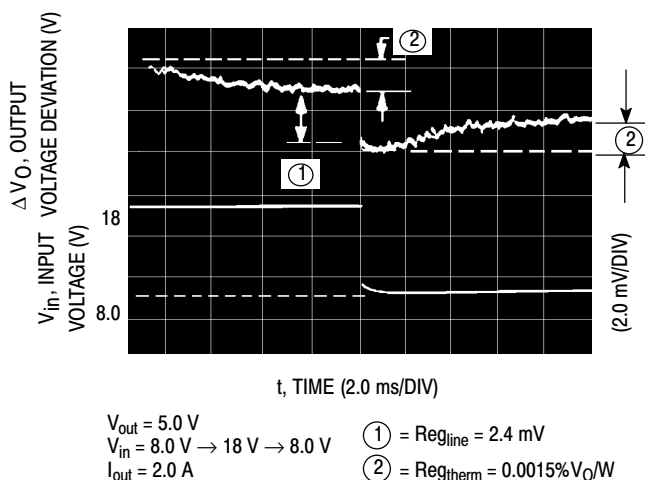

Figure 1. MC78T05AC Line and Thermal Regulation
Figure 1 shows the line and thermal regulation response of a typical MC78T05AC to a 20 W input pulse. The variation of the output voltage due to line regulation is labeled ① and the thermal regulation component is labeled ②. Figure 2 shows the load and thermal regulation response of a typical MC78T05AC to a 20 W load pulse. The output voltage variation due to load regulation is labeled ① and the thermal regulation component is labeled ②.